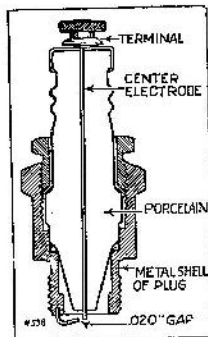

FIG. 4—SPARK PLUG
24. It sometimes happens that a spark plug porcelain is cracked or broken so that the spark jumps through from the center electrode to the shell of the spark plug and does not jump at the gap inside of the cylinder (see Fig. 4). This, of course, prevents the motor from firing. The simplest way to check a spark plug is to try a new one and you will find it advisable to have a spare spark plug on hand for testing. If the motor starts with the new plug, then you know that the old one is at fault and should be discarded. The gap at the spark plug should be somewhat less than  $\frac{1}{16}$ " (to be exact, .020").
39. Spark Plug. A sectional view of the spark plug is shown in Fig. 4, on page 4. The purpose of the porcelain is to prevent the spark from jumping anywhere except at the gap in the cylinder. If the porcelain is cracked or broken, however, the spark may jump through to the shell of the spark plug. This will prevent the motor firing. Water on the outside of the spark plug may permit the high voltage spark current to leak over the surface of the porcelain. Carbon deposits on the porcelain inside of the cylinder will do the same thing. The spark plug should, therefore, be removed to see that the porcelain is not heavily coated with carbon. It can be cleaned by taking the plug apart and washing off the carbon with gasoline or cleaning with some kitchen scouring powder. When the plug has been put together again, the gap should be set at .020".